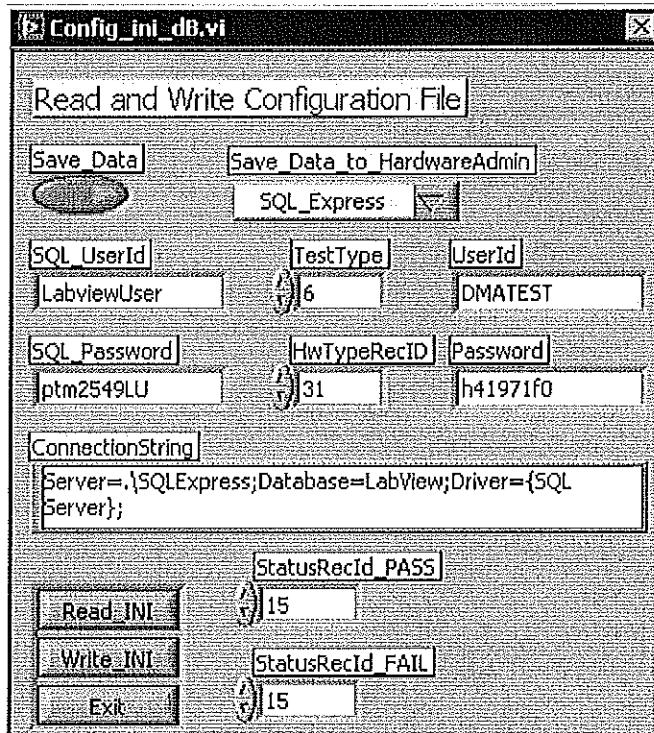

Figure 5 – Database configuration window.
2. The “Config\_ini\_db” window will open (Figure 5).